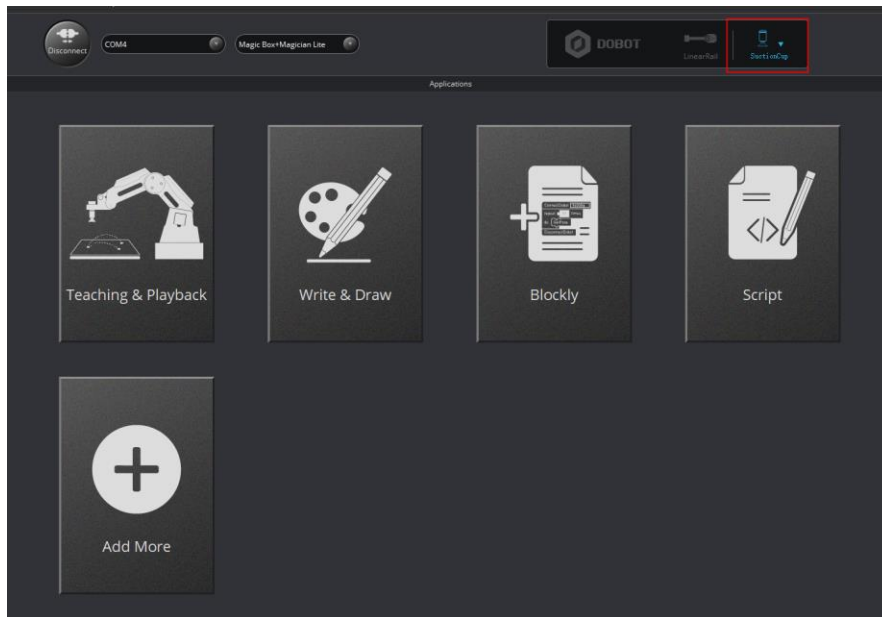

Figure 5.23 Choose SuctionCup as the end-effector
- Step 1** Choose **SuctionCup** as the end-effector on the **DobotStudio** page, as shown in Figure 5.23.